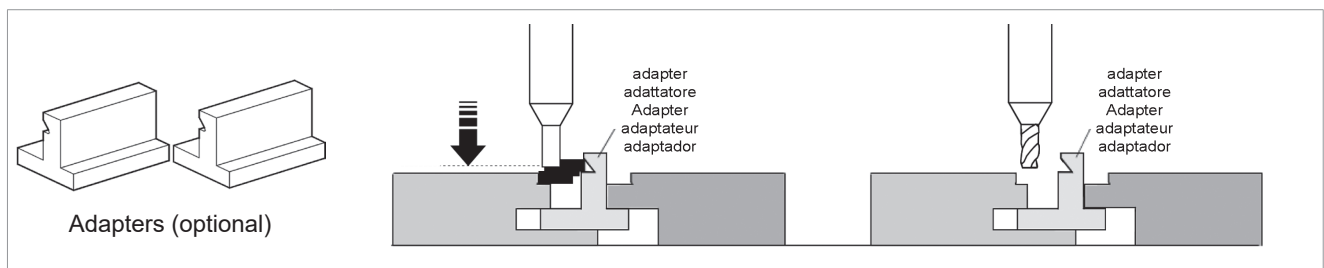

Fig. 29
- 1) Open the clamps by loosening knobs (E) and (E1).
- 5) Secure adapter and key by tightening knob (E).
- 7) Use lever (J) to lower the vertical carriage, without exerting too much pressure, until the tracer rests in the bottom of the cut on the original key (Fig. 29) and secure the spindle at this height by means of knob (R).
- 11) Start the cutting operation by activating switch (Q).